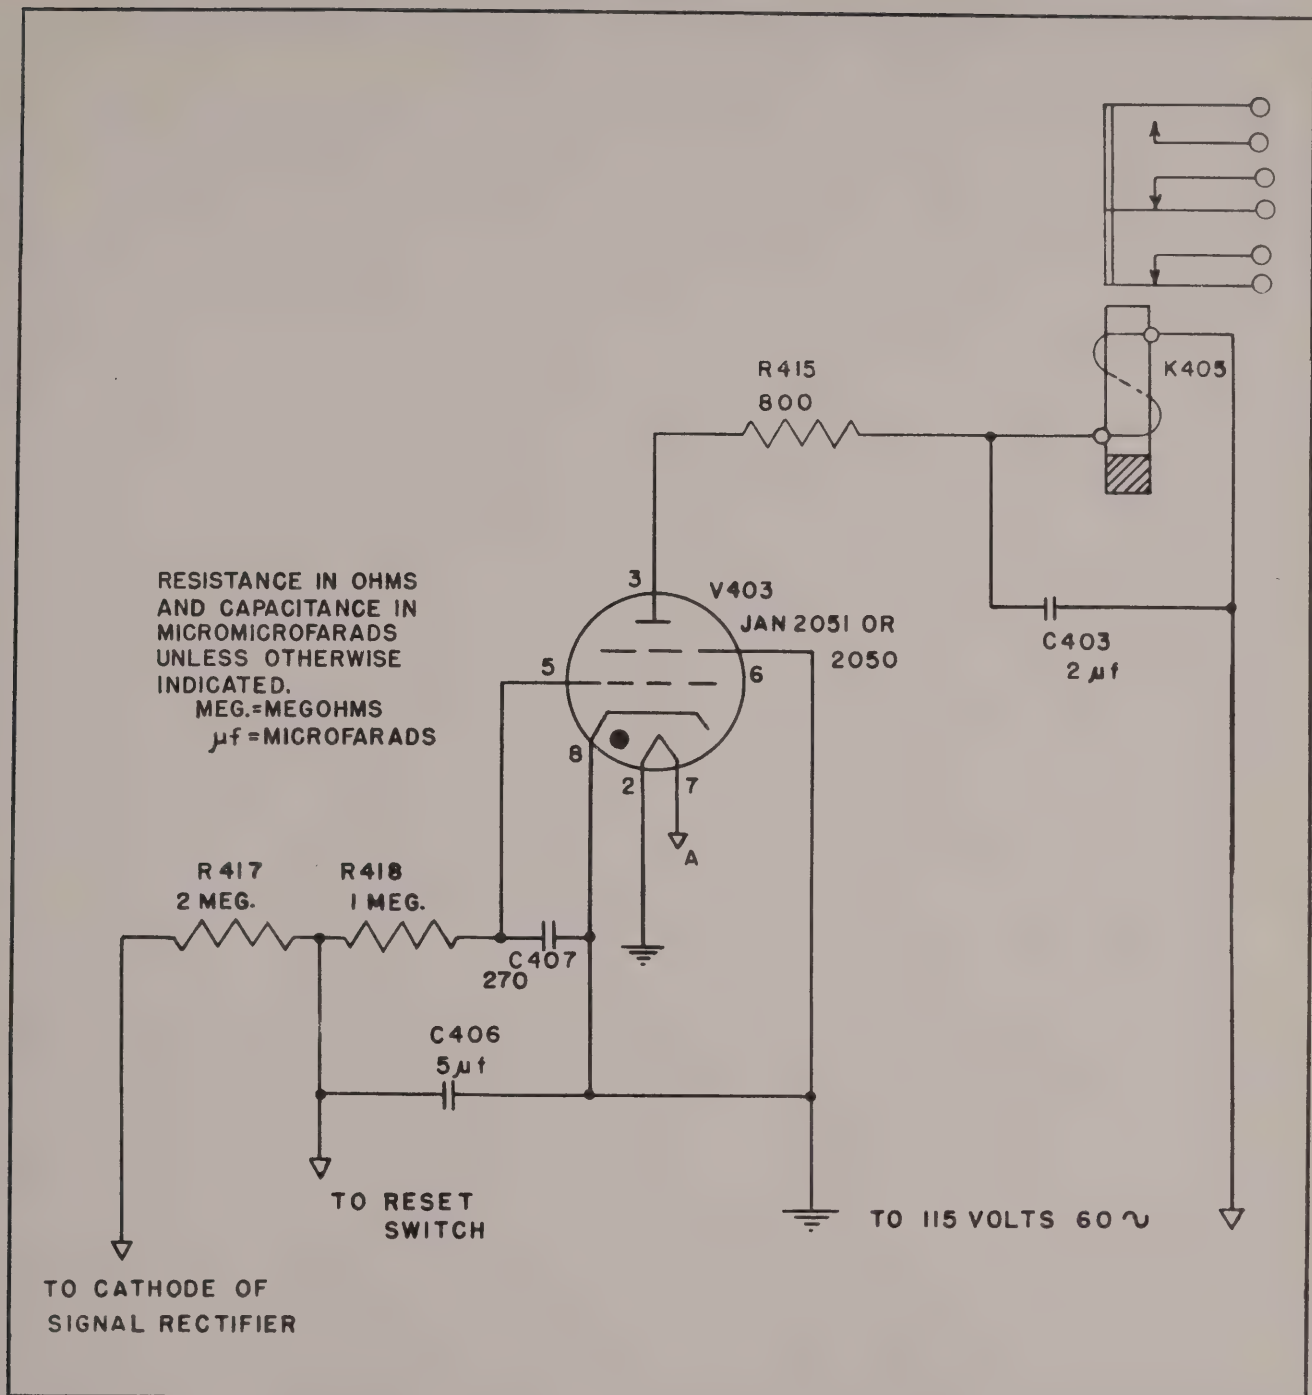

Figure 4-39. Alarm Tube Functional Diagram
(11) Resistor R-417 and capacitor C-406 comprise a resistance-capacitance time delay circuit in the grid circuit of alarm tube V-403 (JAN-2051). (See figure 4-39.) The total time delay obtained from this circuit plus the resistance-capacitance combination of resistor